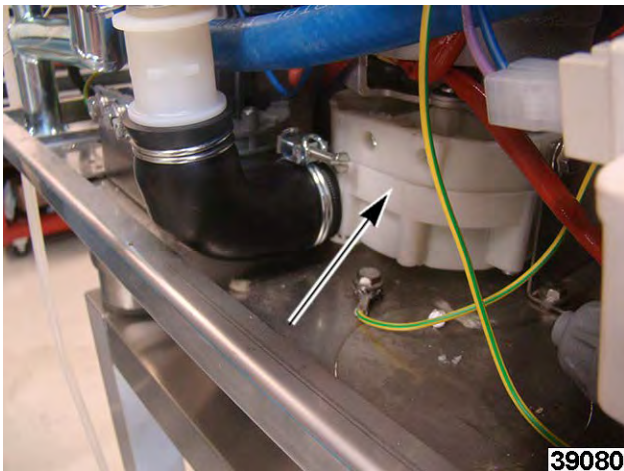

Fig. 61
3. Disconnect intake hose from wash pump (Fig. 61).